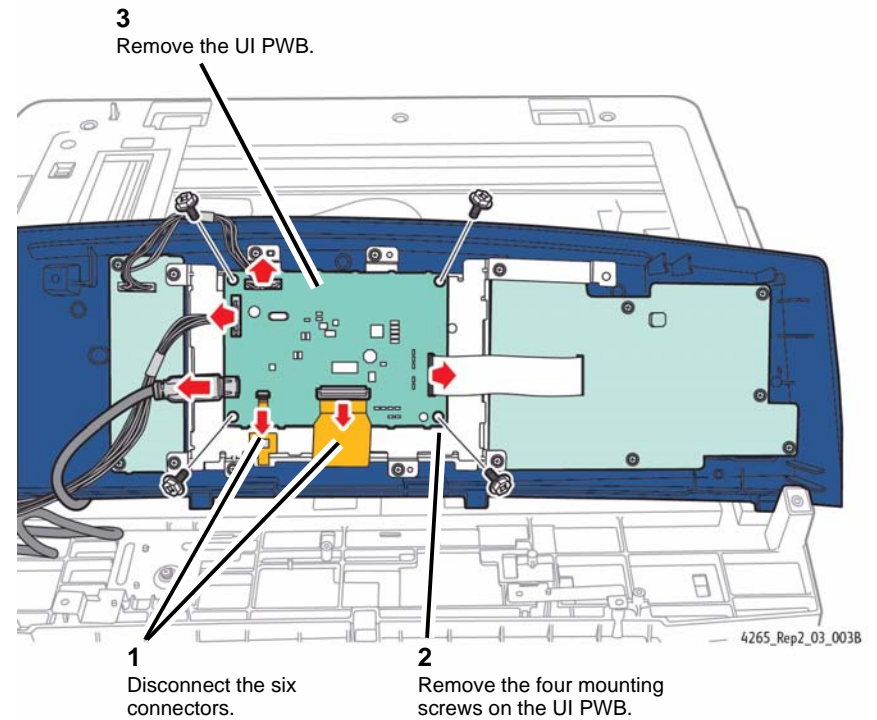

Figure 3 Removing the User Interface PWB
3. Remove the User Interface PWB (Figure 3).